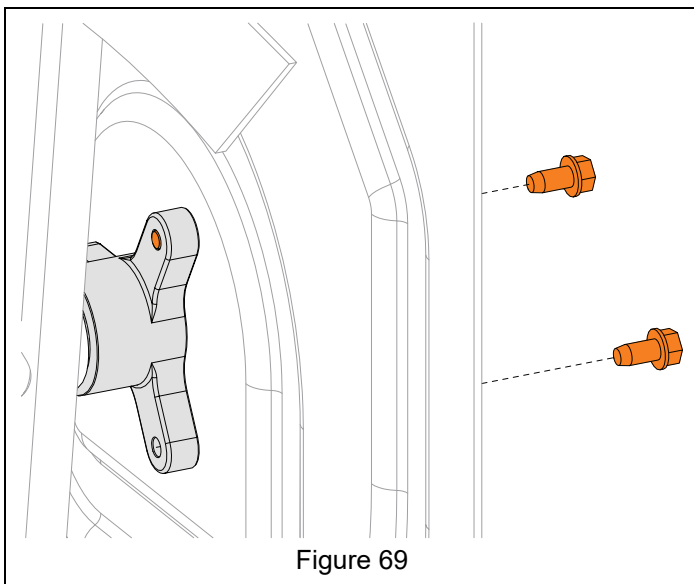

Figure 69
4. Secure support bushings to auger housing with six tapping screws. See Figure 69.